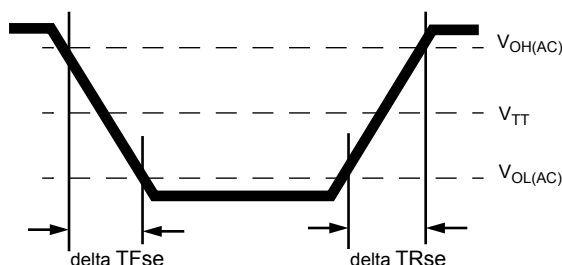

Figure 6. Single-ended Output Slew Rate Definition
With the reference load for timing measurements, output slew rate for falling and rising edges is defined and measured between VOL(AC) and VOH(AC) for single ended signals as shown in Table 13 and Figure 6.